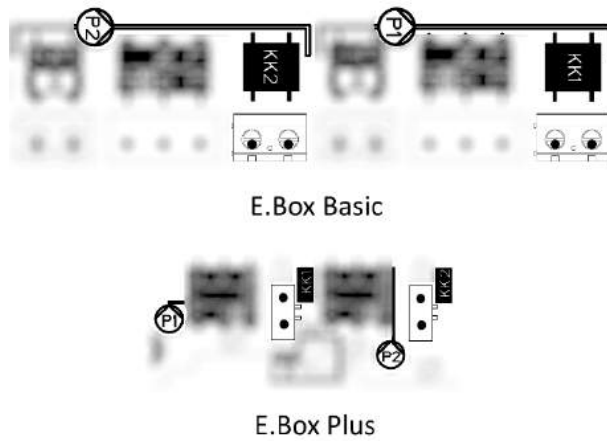

Figure 45: Thermal protection inputs KK
- **Motor thermal protection:** the device has an input for the thermal protection of each motor. If the motor used is provided with thermal protection, this protection can be connected to the terminals KK. If the protection is not present in the motor, the terminals must be jumpered. The terminals are shown in Figure 45.